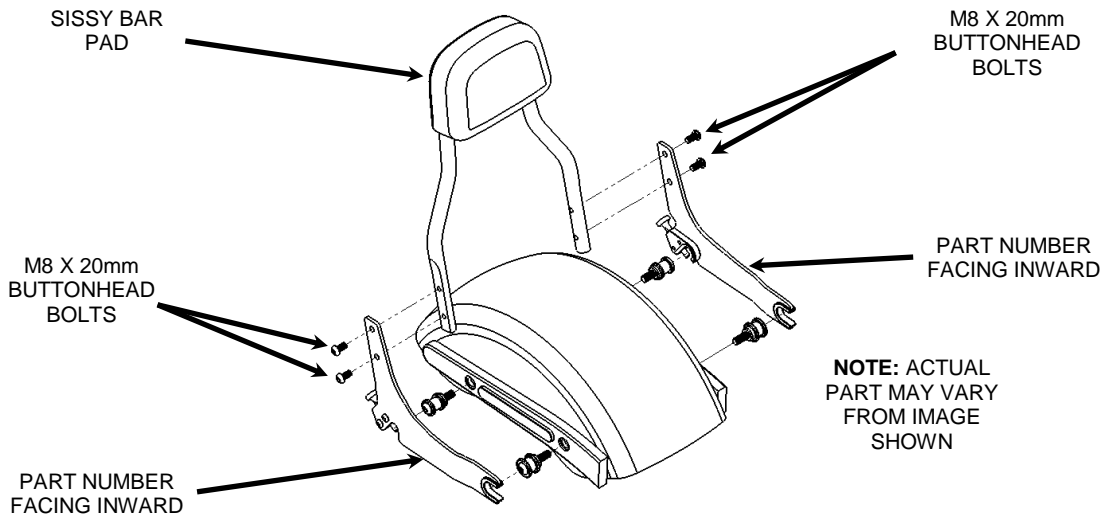

FIGURE 3
5. Install the supplied side plates on to the sissy bar with the four M8 X 16mm button head bolts. Make sure the u-shaped grommets are facing the same direction as the sissy bar pad and the part numbers are facing inward. See **FIGURE 3**. Snug the bolts but **DO NOT TIGHTEN** at this time.